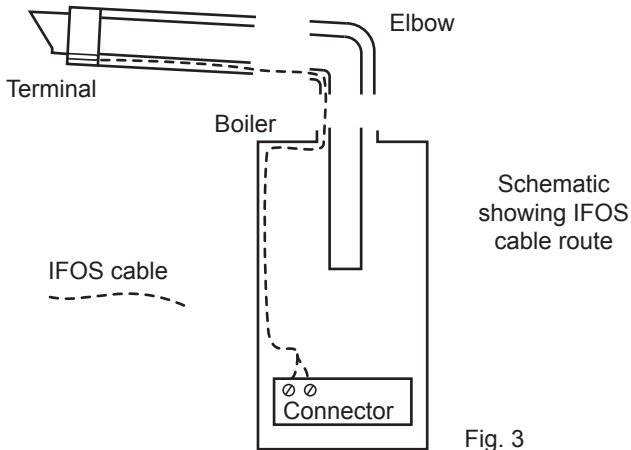

Fig. 3
6. Pass the loose end of the IFOS cable through the air duct of the flue elbow and into the outer part of the boiler adaptor (Fig. 3).